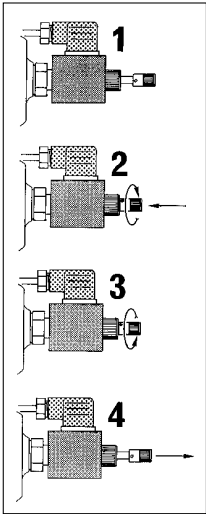

Abb. 9b
- remove the lead seal placed on the electrovalve **G**, push the button and then turn it clockwise (fig. 9b pos. 1-2); the button stays in the closed position.
- **Put the button of the electrovalve G back to its original position, by turning it anti-clockwise (fig. 9b pos. 3-4)**